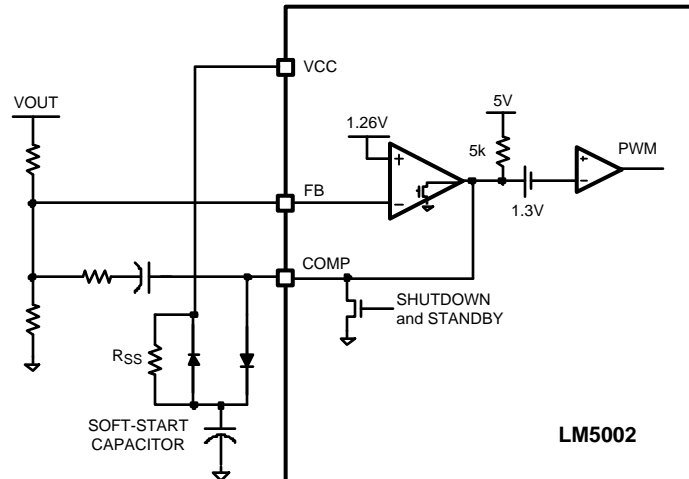

Figure 20. Soft-Start
Internal Thermal Shutdown circuitry is provided to protect the IC in the event the maximum junction temperature is exceeded. When the 165°C junction temperature threshold is reached, the regulator is forced into a low power standby state, disabling all functions except the VCC regulator. Thermal hysteresis allows the IC to cool down before it is re-enabled. Note that since the VCC regulator remains functional during this period, the soft-start circuit shown in Figure 20 should be augmented if soft-start from Thermal Shutdown state is required.
Soft-start (SS) can be implemented with an external capacitor connected to COMP through a diode as shown in Figure 20. The COMP discharge MOSFET conducts during Shutdown and Standby modes to keep the COMP voltage below the PWM offset (1.3V), which inhibits PWM pulses. The error amplifier will attempt to raise the COMP voltage after the EN pin exceeds the 1.26V standby threshold. Because the error amplifier output can only sink current, the internal COMP pull-up resistor (~5 k Ω) will supply the charging current to the SS capacitor. The SS capacitor will cause the COMP voltage to gradually increase, until the output voltage achieves regulation and FB assumes control of the COMP and the PWM duty cycle. The SS capacitor continues charging through a large resistance, R_{SS}, preventing the SS circuit from interfering with the normal error amplifier function. During shutdown, the VCC diode discharges the SS capacitor.